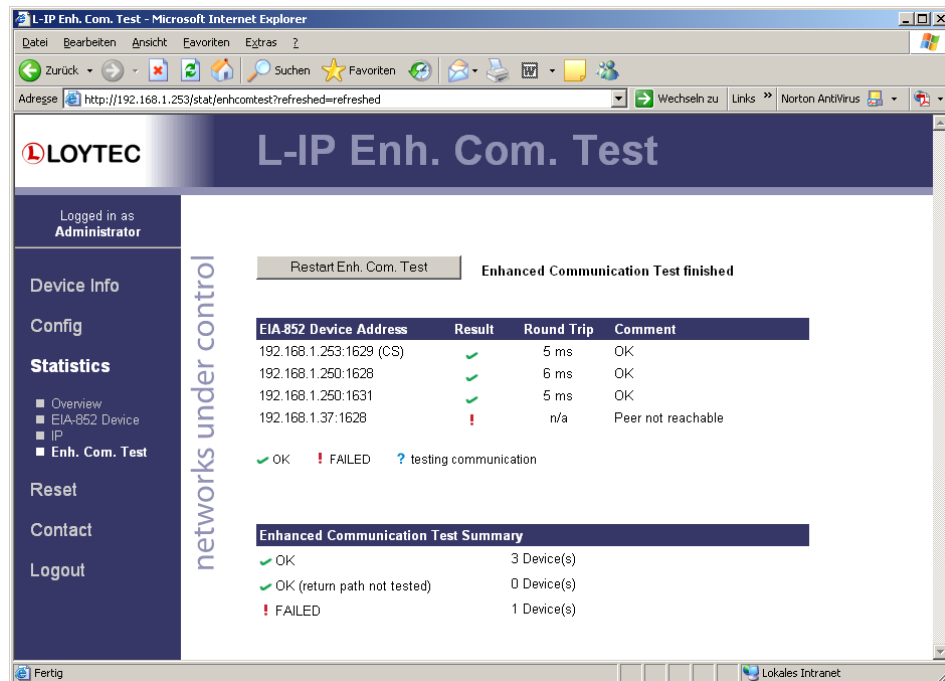

Figure 53: Enhanced communication test output.
3.0 and up to diagnose more thoroughly the paths between individual members and the configuration server in each direction. Port-forwarding problems are recognized. For older devices or devices by other manufacturers, which do not support the new test features, the test passes as soon as a device is reachable, but adds a comment, that the return path could not be tested. A typical output is shown in Figure 53.